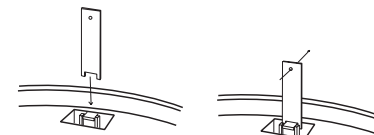

Figure 4
9.5.2 Remove alarm cover by using the special tool provided on the three locking tabs on the alarm base (see Figure 4).